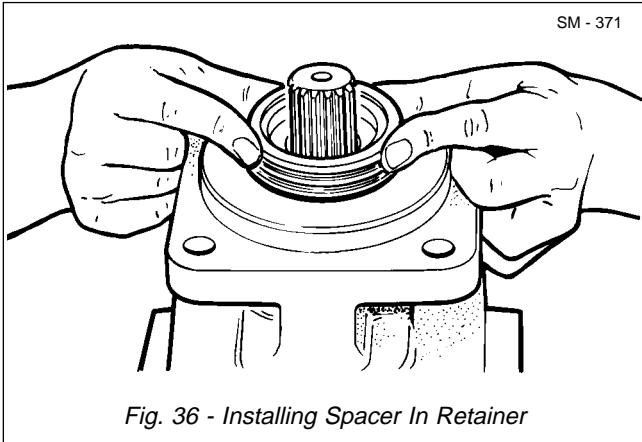

Fig. 36 - Installing Spacer In Retainer
into shaft end cover (6) against seal retainer (3). See Fig. 36.
20. Install snap ring (1) in shaft end cover (6) snap ring groove.